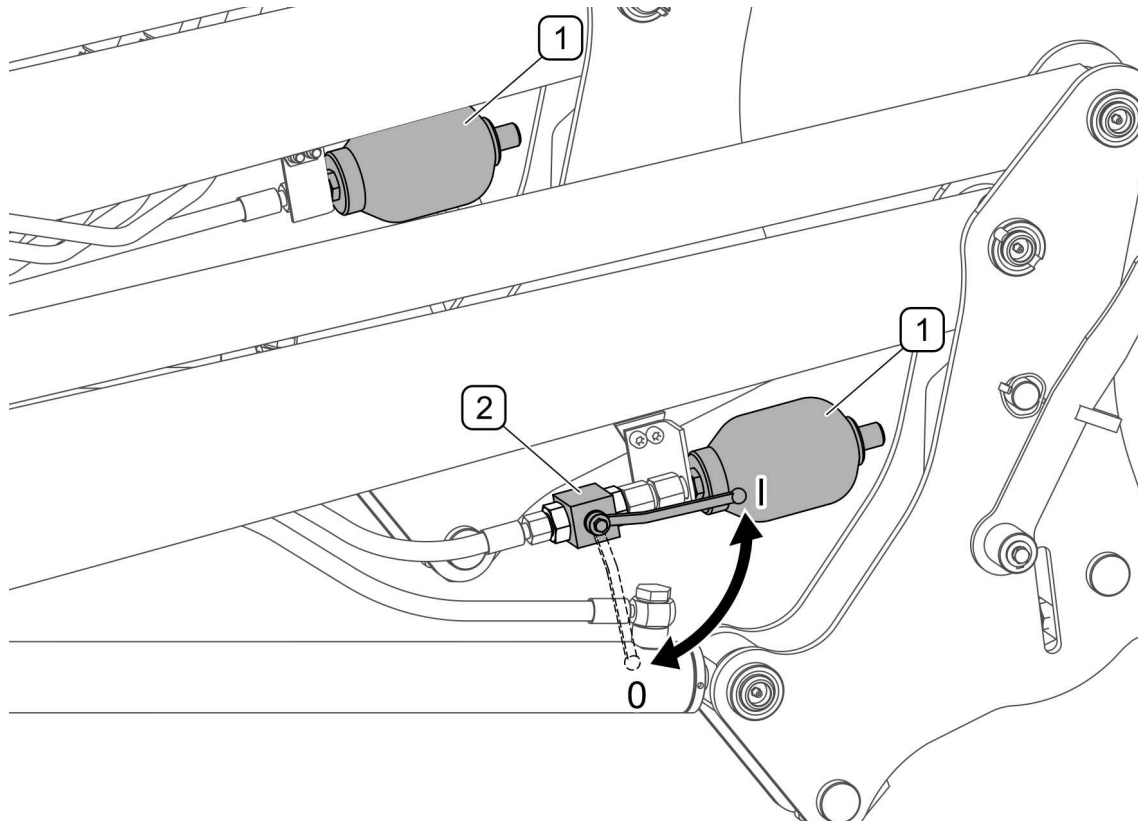

FIGURE 4.17 Engaging hydraulic shock absorber
The hydraulic shock absorber may be disconnected by setting valve lever (2), (FIGURE 4.17) in vertical position. It is recommended to deactivate shock absorber in work requiring precision of loader setting (e.g. work with pallet forks).